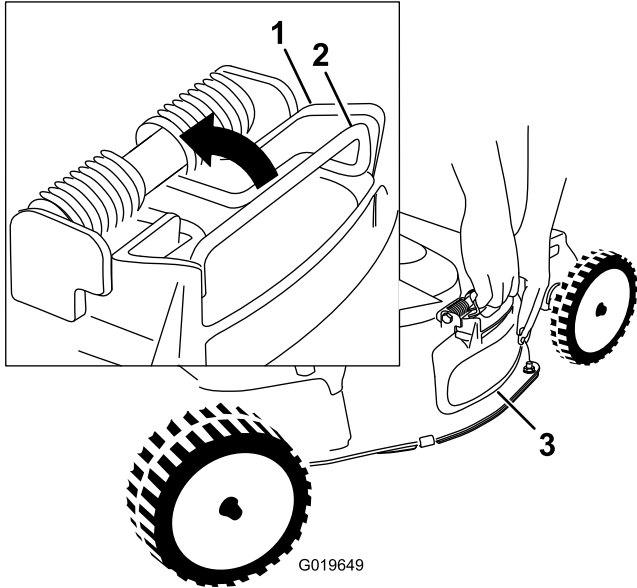

Figure 25
4. Remove the side-discharge door by pulling up on the spring that holds the door in place and removing the door (Figure 25).